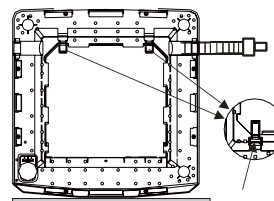

Figure 3
3. Nip the end of the drain hose and remove the hook of fixing the drain hose. (as indicated in Figure 3)